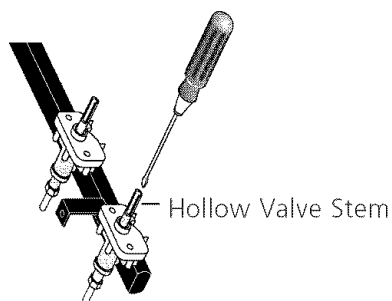

Figure 15
2. Adjust the "LO" or "SIMMER" Setting of Surface Burner Valves (see Figure 15)